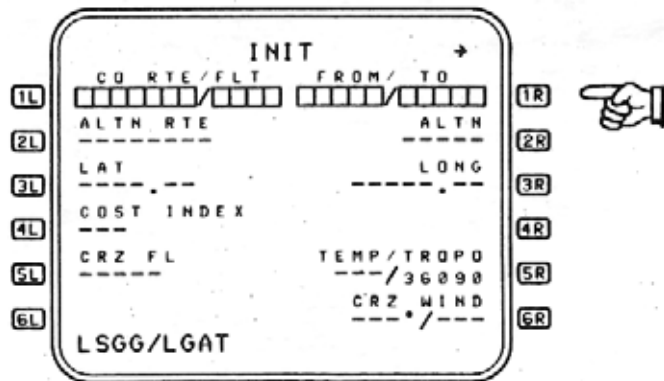

Figure 2-4
1R **FROM/TO** - Entry of a FROM/TO airport pair only is allowed in this field. The FROM/TO field is filled automatically when a CO RTE is defined in **1L**, or manually from the scratchpad (SP), e.g., with LSGG/LGAT in the SP (Figure 2-4), pressing LSK **1R** inserts this airport pair into the boxes and the ROUTE SELECTION page is displayed. (See Section 2.1.2.6).